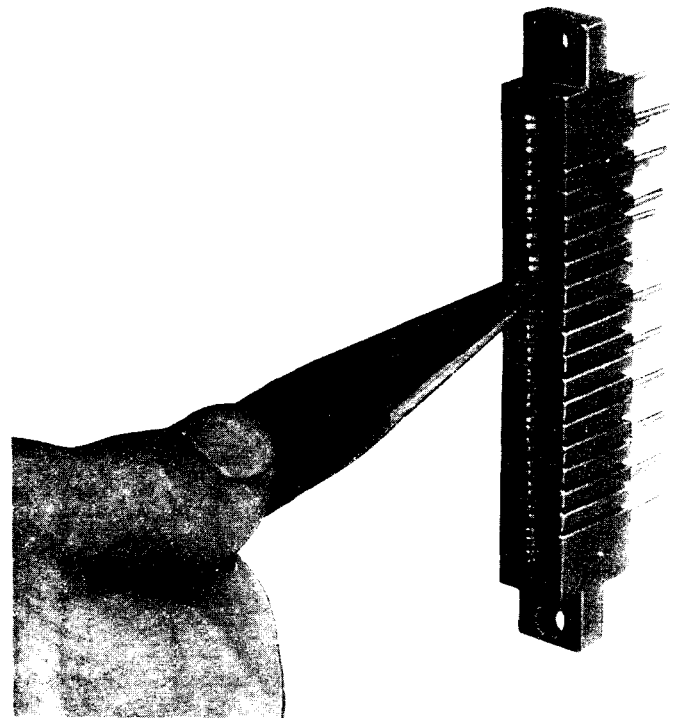

Fig. 5—Removing Terminals
- (c) At the contact side of the connector, insert the B long nose pliers into the section containing the remainder of the terminal so that the contact may be pulled free of the block (Fig. 5).